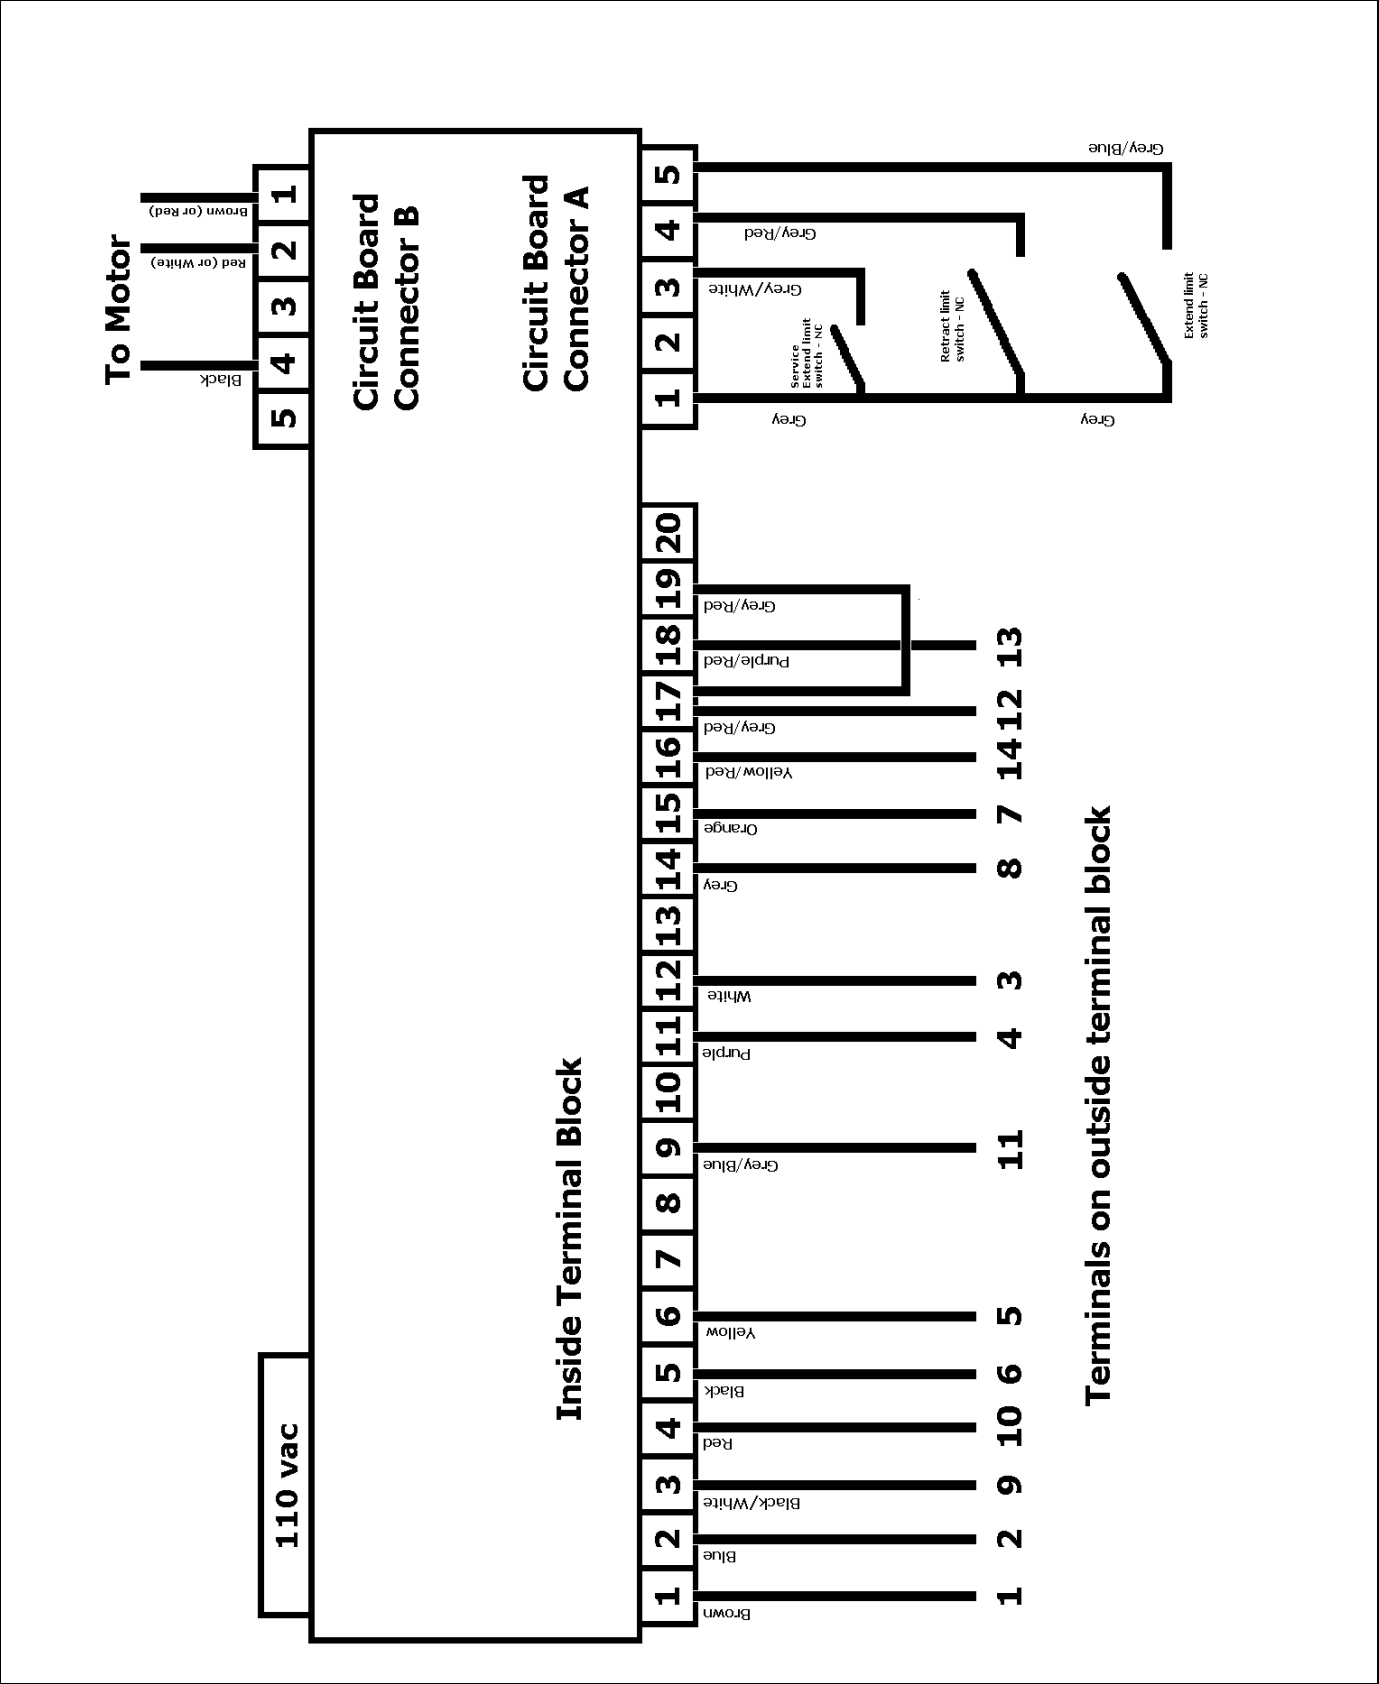

Figure 19
**NOTE:** Refer to **Table 2: Internal Terminal Descriptions** and (See Figure 19) for terminal descriptions, functions and wiring options.